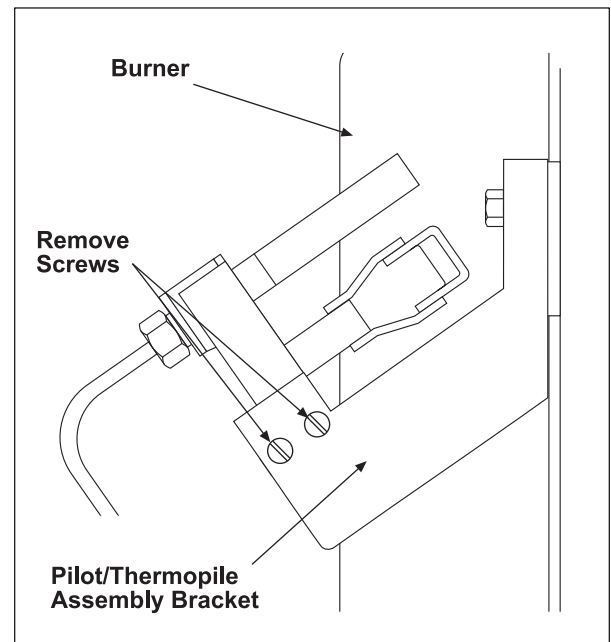

Figure 14
4. Remove (2) screws holding the pilot assembly to the Pilot/Thermopile Assembly Bracket and replace the old pilot with the new assembly (Figure 14).